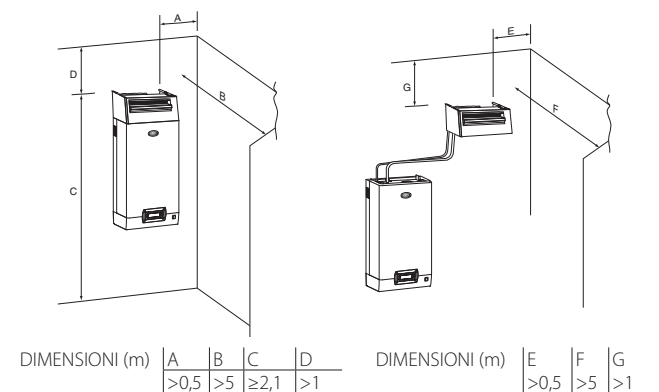

Fig. 3.c
2. the "L"-shaped mounting support (see part 1 Fig. 3.c) is supplied with steam distributor models from DP085\* to DP025\*. For shorter lengths, the support can be supplied as an option (code 18C478A088).